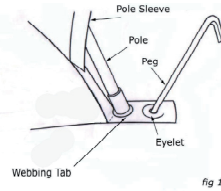

fig 1
4. Insert one end into the eyelet in the webbing tab at the base of and nearest to the flysheet (the other is for the peg) and repeat with the other end, by grasping the webbing tab firmly (see figure 1) pushing the pole through the pole sleeve. To achieve this the pole sleeves must be eased over the poles, especially over the metal joints or ferrules. Repeat with the remaining poles.
6. Gather up the inner tent, ensuring that its door is closed, and take it inside the flysheet. Start at the rear edge of the inner and clip the hooks that are on the corners of the groundsheet to the "D" rings located on the edge of the flysheet (see figure 1).